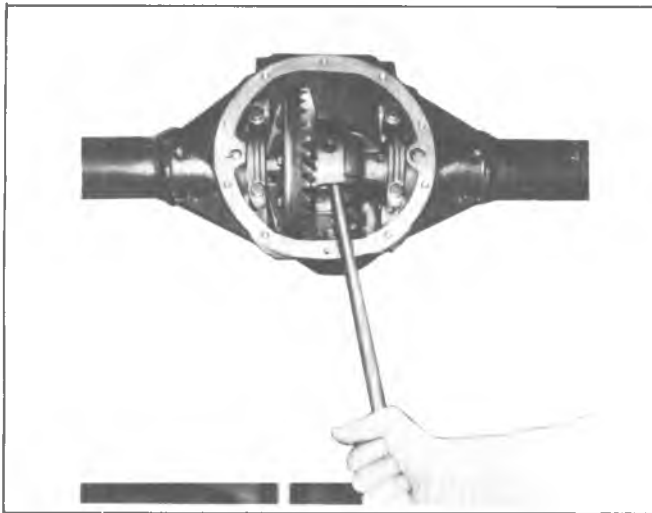

Fig. 2B--Differential Case Removal
5. Using a pry bar as shown in figure 2B, pry differential case out of carrier. Exercise caution in prying on carrier so that gasket sealing surface is not damaged. If the bearings are preloaded, the case will suddenly fall free when it is pried past a certain point; therefore, make sure case is properly supported to prevent damage. The bearing caps may be loosely installed, as shown in Figure 2B, to prevent case from falling.